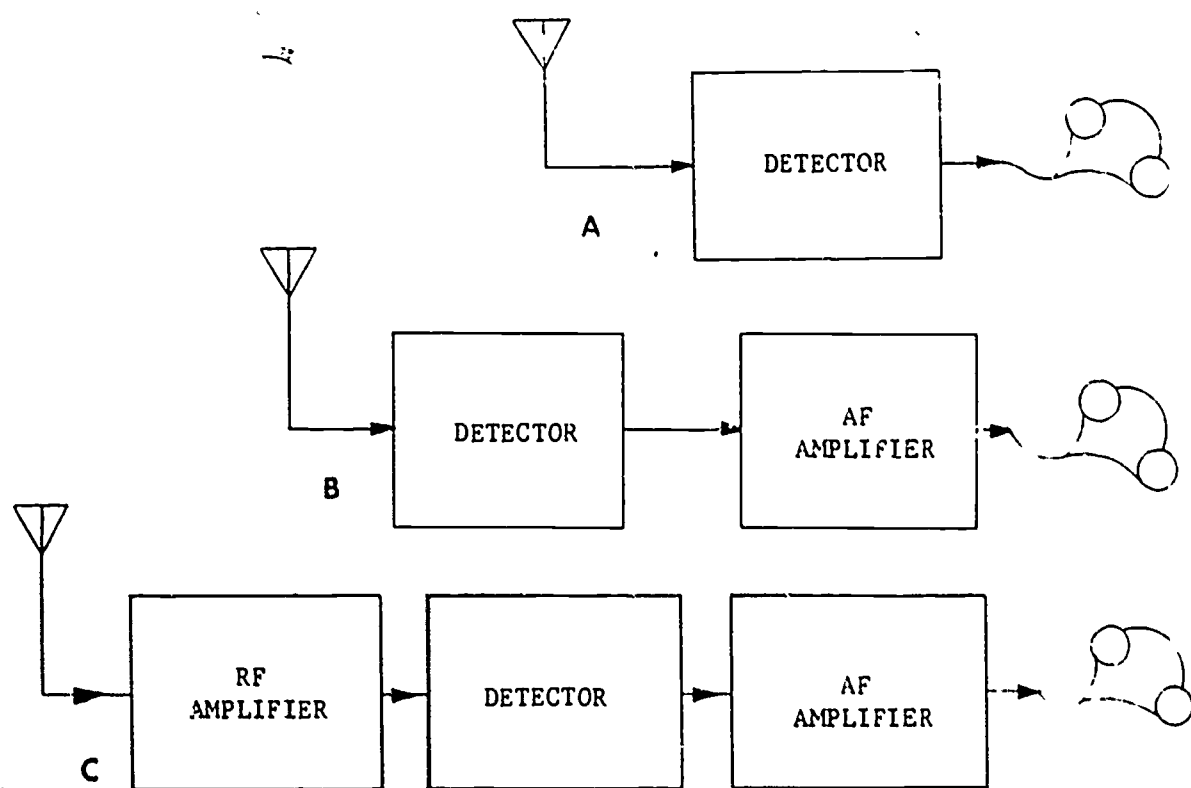

Figure 2-15. Basic radio receivers.
b. Basic Radio Receiver. A radio receiver must be able to select the signals from the various radio stations, extract the information, and produce the sound for the listener. Block diagrams of basic radio receivers are shown in figure 2-15. In A, the antenna, detector, and headset provide a very weak signal and only one or two stations can be heard. In B, there is an improvement in volume because an AF amplifier has been added, but the ability to select stations is not much better. In the block diagram in C, the signals from the antenna are amplified before detection. Some of the weaker stations can now be heard, and overall volume has been improved.